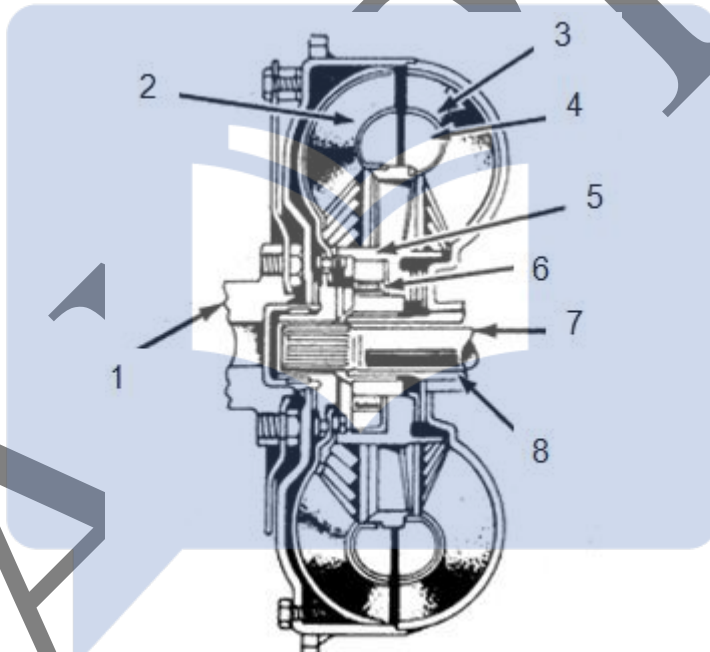

Figure 2
2. The **figure 2** below represents a torque converter.